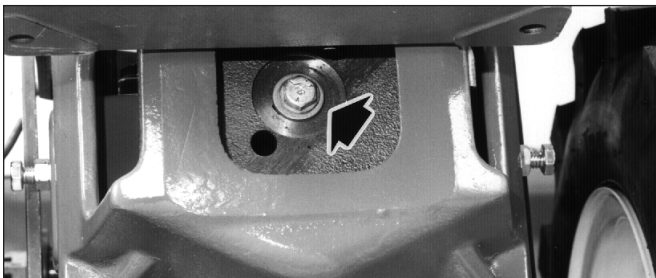

Figure 5-1: Check bolt on transmission pulley.
Most hardware on your tiller is visible. Pay particular attention to hardware shown in Figures 5-1, 5-2, 5-3 and 5-3A.
1. Check the transmission pulley mounting bolt (Figure 5-1). If the washer behind the bolt head is loose, the bolt needs tightening. To do this, first insert a punch or thick screwdriver into the hole next to the bolt and wedge the tool against the side of the motor mount casting. This immobilizes the pulley while you tighten the bolt.